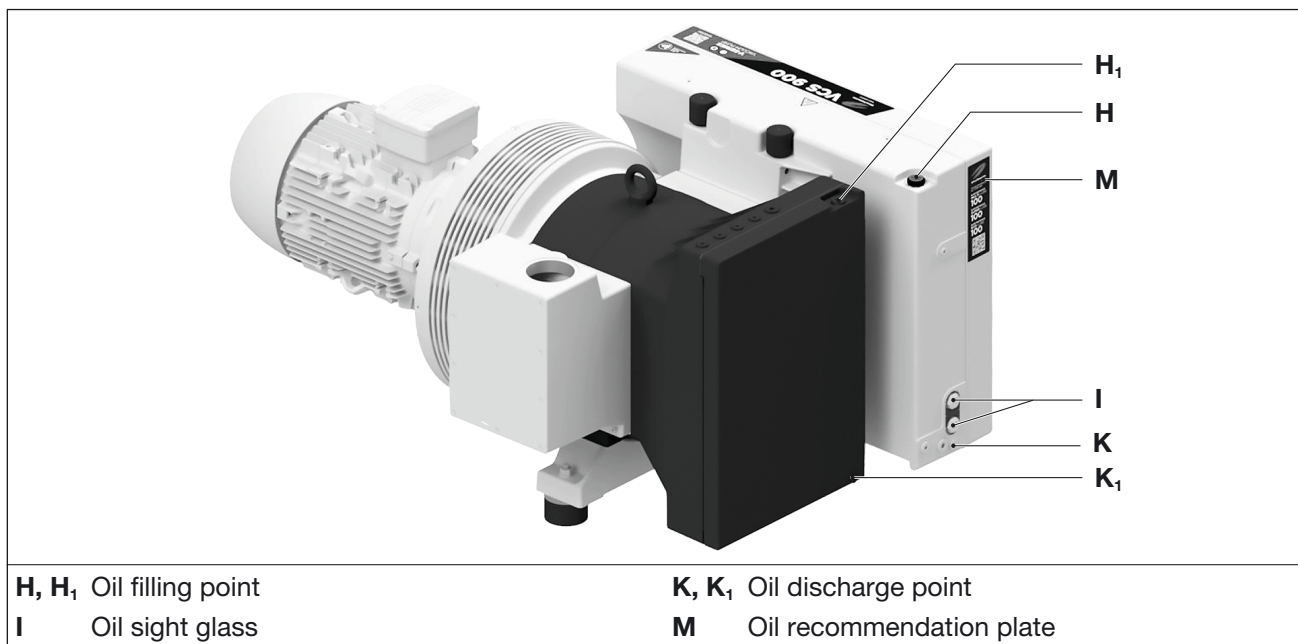

Fig. 9 Oil change
- b) Open the cap of the oil filling point (Fig. 9/H) and refill oil until it reaches the upper edge of the sight glass (Fig. 9/I).
- b) Open the cap of the oil filling point (Fig. 9/H), open the oil discharge point (Fig. 9/K) and completely discharge the used oil.
- c) Close the oil discharge point (Fig. 9/H) and fill in new oil through the oil filling point (Fig. 9/H).
- d) Check the oil level in the sight glasses (Fig. 9/I).